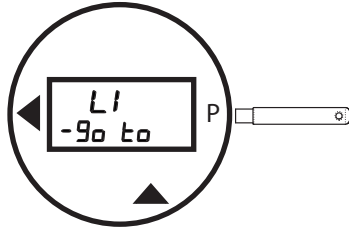

Figure 20.
- Pass the wand over the **P** until you reach the **L1 -Go to** menu selection (Figure 20).